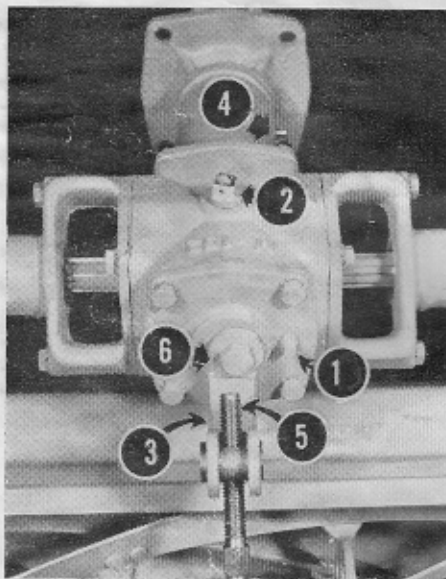

Figure 10
Check the Gear Housing oil level every four hours of operation by removing the Oil Level Plug, 1 in Figure 10. If oil runs out, the oil level is all right; if not, oil must be added.
To add oil, remove the Oil Filler Plug, 2 in Figure 10, and pour through the Oil Filler Hole until oil begins to run out the Oil Level Hole (too much oil will cause over-heating and consequent gear damage). Replace both Plugs before resuming mowing.
Change oil in the Gear Housing at least annually. To drain, remove the entire Strut Casting, 3 in Figure 10; replace after the oil has drained. Add oil as instructed above.
Use Mobilgrease MP occasionally in the grease fittings on the Swivel Casting, 4 in Figure 10, and as required in the grease fittings for the Reel Bearings, arrow in Figure 11. It is important to lubricate properly the Reel Bearings, as the grease forms a water seal around each Bearing, preventing rust. Use Mobilgrease MP as required in the grease fittings on the Roller Bar.
Turn the Height Adjusting Screw, 5 in Figure 10, clockwise to raise the cutting height; turn it counter-clockwise to lower the cutting height.
1. Loosen the bolt on the front of the Gear Housing, 6 in Figure 10.